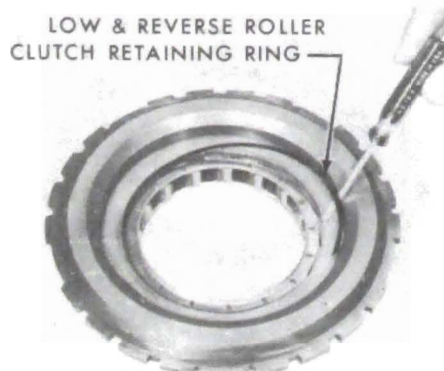

Figure 75-220
3. Remove low and reverse roller clutch retaining ring. See Figure 75-220.